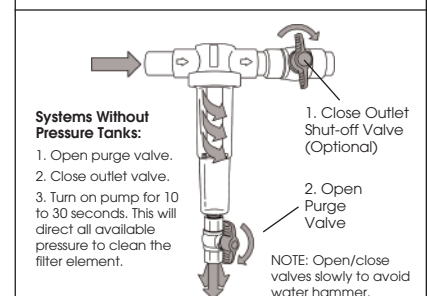

Fig 4. Cleaning the Filter.
9. Installation of a shut-off valve on the outlet side of the filter is recommended for more effective cleaning. (See Fig 4.)
1. **FLUSH CLEANING:** The primary method of cleaning the filter is flushing separated solids through the purge valve while the filter is under system pressure. (See Fig 4.) The purging process can be automated with an Automatic Flush Valve (AFV)—consult your distributor for details.